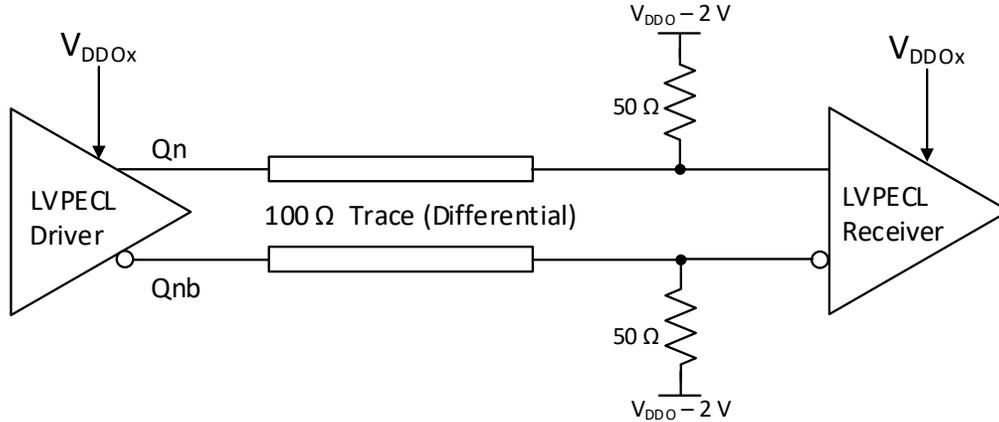
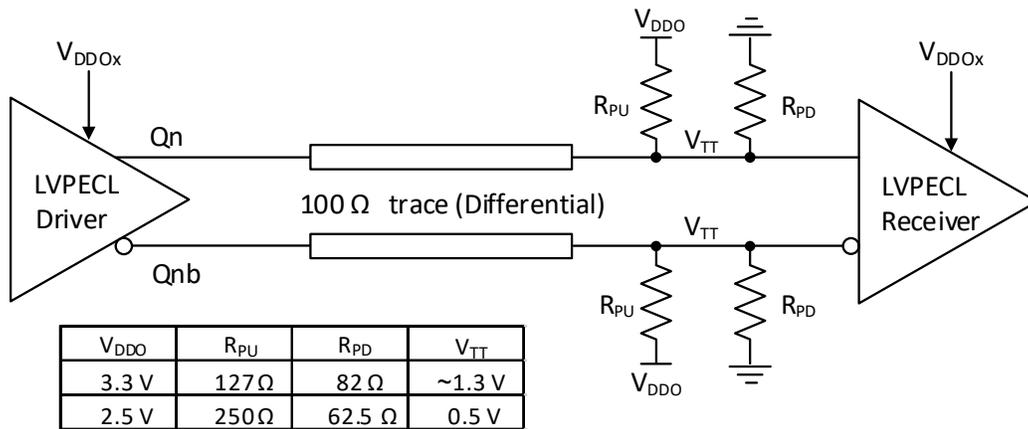

Figure 22. DC-Coupled LVPECL Clock Output Termination
Figure 23. DC-Coupled LVPECL Clock Output Termination, Thevenin Equivalent
For dc-coupled operation of an LVPECL driver, terminate with 50 Ω to  $V_{DDO} - 2\text{ V}$ , as noted in Figure 22. Alternatively, terminate with a Thevenin equivalent circuit as shown in Figure 23 on page 21 for  $V_{DDO}$  (output driver supply voltage) = 3.3 V and 2.5 V. In the Thevenin equivalent circuit, the resistor dividers set the output termination voltage (VTT) to  $V_{DDO} - 2\text{ V}$ .
**Note:** This Thevenin circuit is different from the dc-coupled example in Figure 23, since the voltage divider is setting the input common-mode voltage of the receiver.